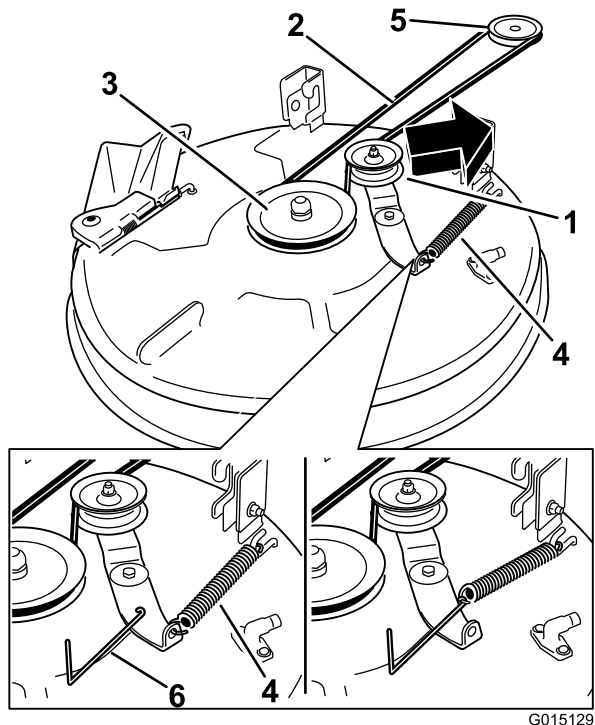

Figure 56
remove tension on the idler pulley and roll the belt off of the pulleys (Figure 56).
- Route the new belt around the engine pulley and mower pulleys (Figure 56).
- Using a spring removal tool, (Toro part no. 92-5771), install the idler spring over the deck hook and placing tension on the idler pulley and mower belt (Figure 56).